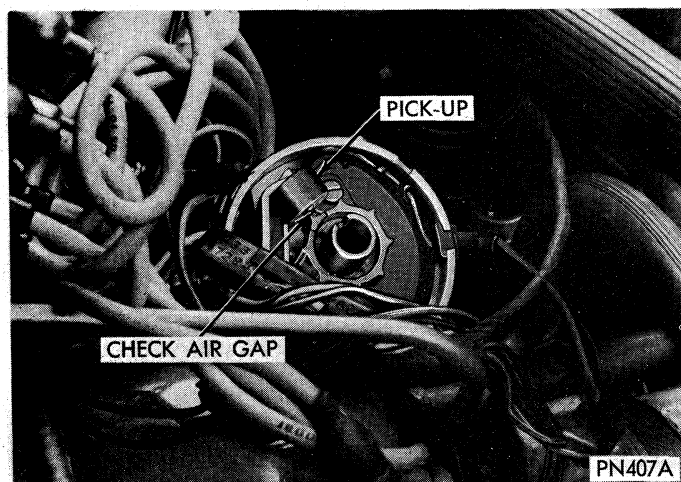

Fig. 17—Checking pickup air gap
(10) Remove distributor cap and check air gap of "Pick Up" coil (Fig. 17). If it is not within specifications adjust. If it is proceed to next step.
(11) Install distributor cap, reconnect all wiring and try to start engine. If engine still fails to start replace "Spark Control Computer."
(12) After installing new computer and engine still fails to start, reinstall original one and repeat test procedure because more than likely one of the test procedures was not done correctly.